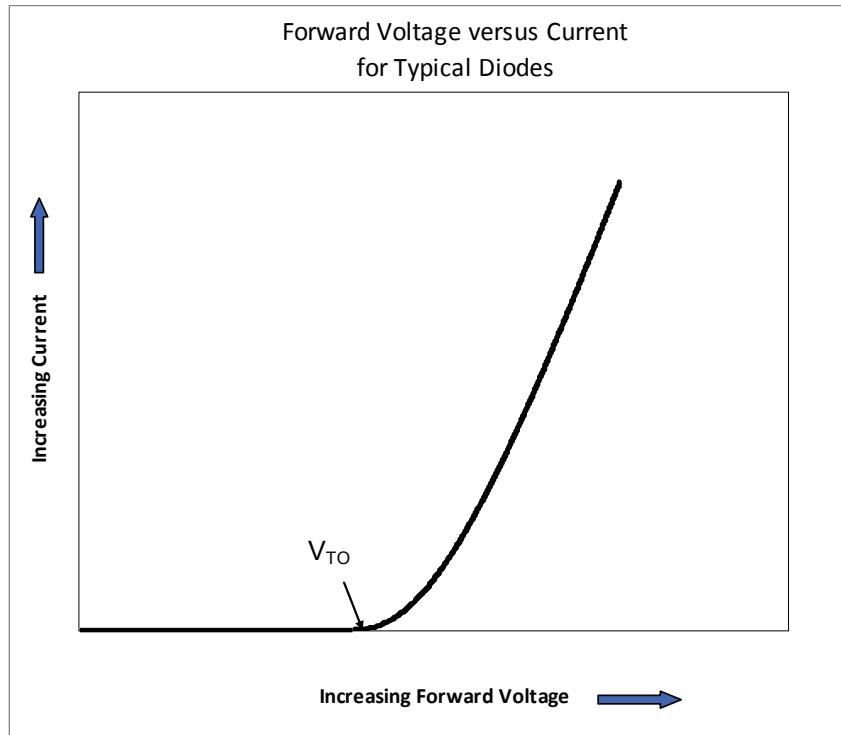

Figure 3: Threshold Voltage or Turn On Voltage for a typical diode
2. LEDs require a minimum voltage to be applied across the junction before current flows, generating light. This minimum voltage is commonly referred to as the threshold voltage or Turn On Voltage (V_{TO}) as shown in Figure 3.